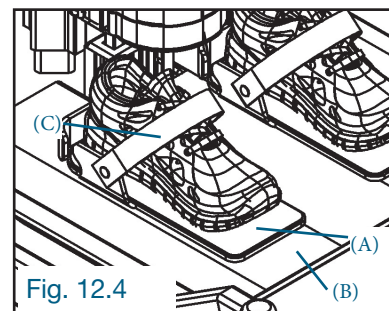

Fig. 12.4
12.4 AJUSTEMENT DES SUPPORTS DE PIED (Fig. 12.4)